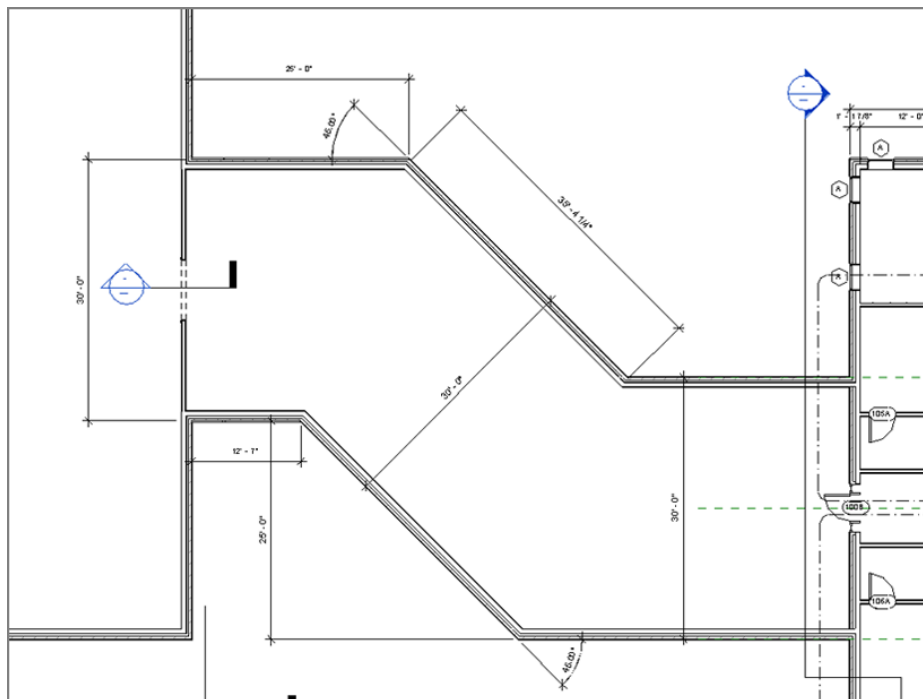

FIGURE 5.19: Finish placing the corridor dimensions.
8. Add the rest of the dimensions, as shown in Figure 5.19. This completes the dimensioning of the corridor area.